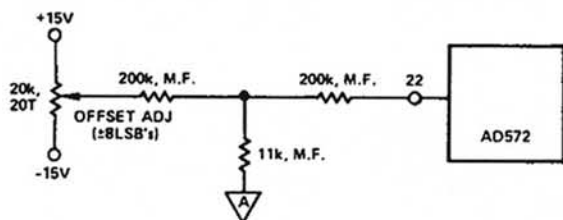
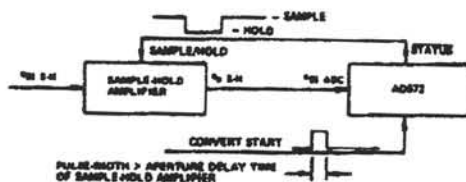
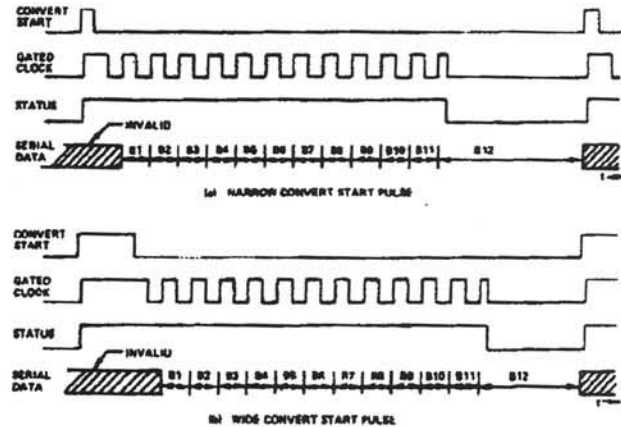

Figure 6. Low Tempco Zero Adj Circuit
Figure 8. Sample-and-Hold Amplifier - AD572 Interconnections
Figure 9. Effect of Convert Start Pulse-Width on Timing
An alternate offset adjust circuit, which contributes negligible offset tempco if metal film resistors (tempco < 100 ppm/°C) are used, is shown in Figure 6.
When the analog signal source has a low impedance (as would be the case if it were the output of the sample-and-hold amplifier of Figure 8), it can be connected to either of the direct input pins 24 and 25. The buffer follower is used in the application as shown in Figure 6, in which the analog input to the converter comes directly from the output of a FET analog multiplexer. The selected channel has a typical  $r_{on} = 200 \Omega$  which has a  $3000 \text{ ppm}/^\circ\text{C}$  tempco. If the multiplexer output were connected to the 0 to +10 V direct input Pin 24 (5 k $\Omega$  input impedance, nominal), this  $r_{on}$  would introduce a 4% gain scale-factor loading error, which is well beyond the normal  $\pm 0.25\%$  FSR external gain adjustment range, and a tempco of approximately  $3000 \text{ ppm}/^\circ\text{C} \times 4\% = 120 \text{ ppm}/^\circ\text{C}$ . By connecting the buffer between the multiplexer output and direct input, these errors are eliminated. The buffer amplifier input bias current (50 nA typical) must flow through the analog signal source, however. This limits the upper practical source impedance to several kilohms so that the offset voltage  $I_{BIAS} R_{SOURCE}$  can be kept negligible, even though the buffer amplifier dynamic input impedance  $\geq 100 \text{ M}\Omega$ . The buffer amplifier has a 2  $\mu\text{s}$  settling
**Sample-and-Hold Amplifier:** A sample-and-hold amplifier (SHA) is normally connected between the analog signal source and AD572 analog input when the analog signal can change by more than 1/2 LSB during conversion. Typical SHA-AD572 interconnections are shown in Figure 8. The STATUS output drives the SHA SAMPLE/HOLD input directly. On receipt of a CONVERT START pulse, the STATUS flag changes from "1" to "0" causing SHA mode to change from SAMPLE to HOLD. The SHA output voltage  $e_{o, S-H}$  is then held constant at the value existing just prior to application of the HOLD command for the complete conversion period. At the end of conversion, the STATUS flag returns to "1," restoring the SHA mode to SAMPLE,  $e_{o, S-H}$  again tracks the analog signal voltage  $e_{in, S-H}$  (after the signal acquisition transient has subsided).
Note that the internal (gated) clock is inhibited for the duration of the CONVERT START pulse and does not start running until the termination of this pulse (see timing). This can be used to simplify control signal timing requirements. In the circuit of Figure 8, for example, the CONVERT START signal pulse-width can be extended beyond the aperture delay time of the SHA to assure that  $e_{o, S-H}$  is in steady state before conversion is initiated. This assured accurate conversion without requiring additional delay timing circuitry. The effect of varying the CONVERT START pulse width on the conversion timing cycle is shown in Figure 9.